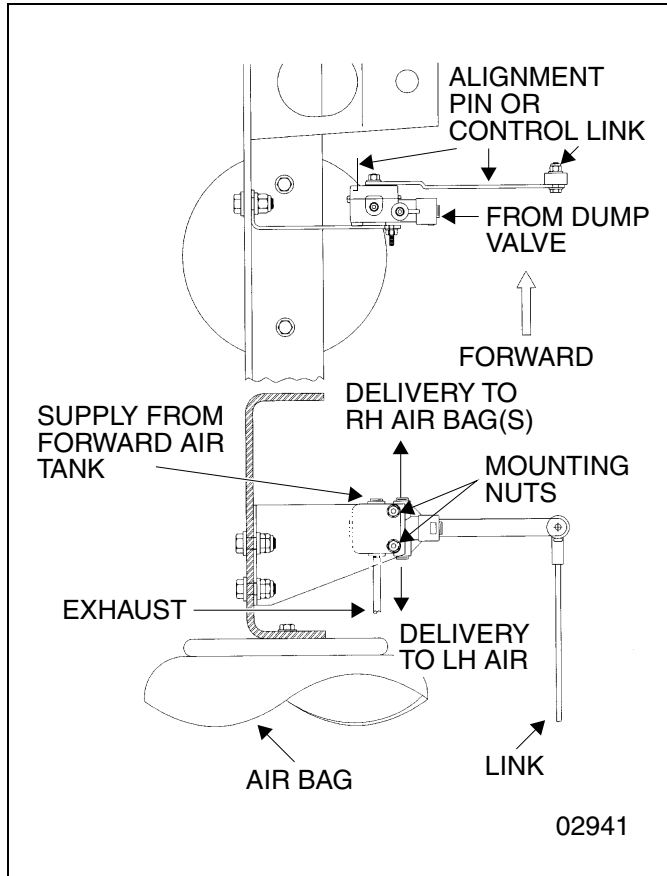

Figure 1-15 Typical Height Control Valve Plumbing
1. Ensure that the air supply and delivery plumbing of the height control valve is correct (see Figure 1-15).